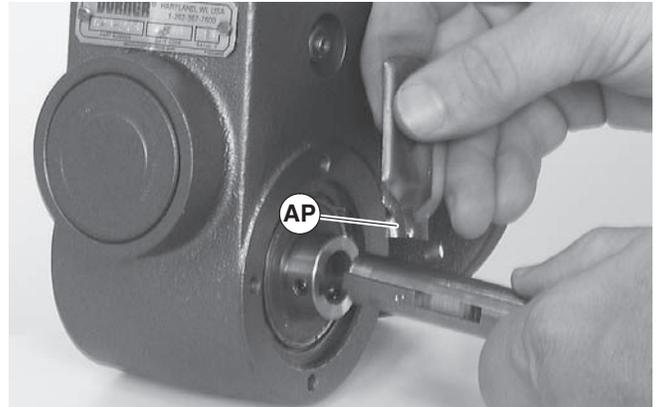

Figure 26
- Apply grease (Figure 26, item AP) to shaft.